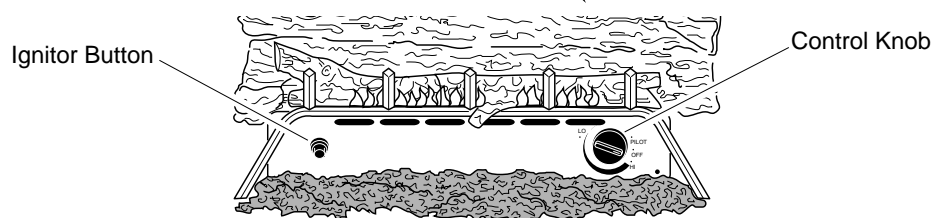

Figure 19 - Control Knob and Ignitor Button Location
4. Wait five (5) minutes to clear out any gas. Then smell for gas, including near the floor. If you smell gas, STOP! Follow “B” in the safety information on page 20. If you don’t smell gas, go to the next step.
5. Press in control knob and turn counterclockwise  to the PILOT position. Keep control knob pressed in for five (5) seconds (see Figure 19).